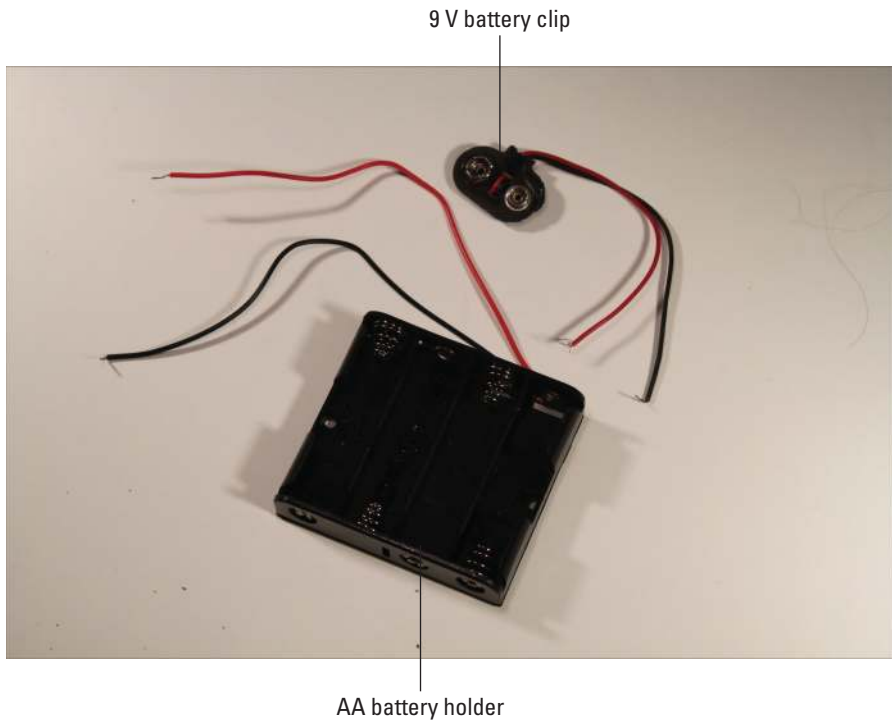

Figure 3-14:
- ◆ **Jumper clips:** These are short (typically 12 or 18 inches) wires that have *alligator clips* attached on either end, as shown in Figure 3-14. You'll use them to make quick connections between components for testing purposes.